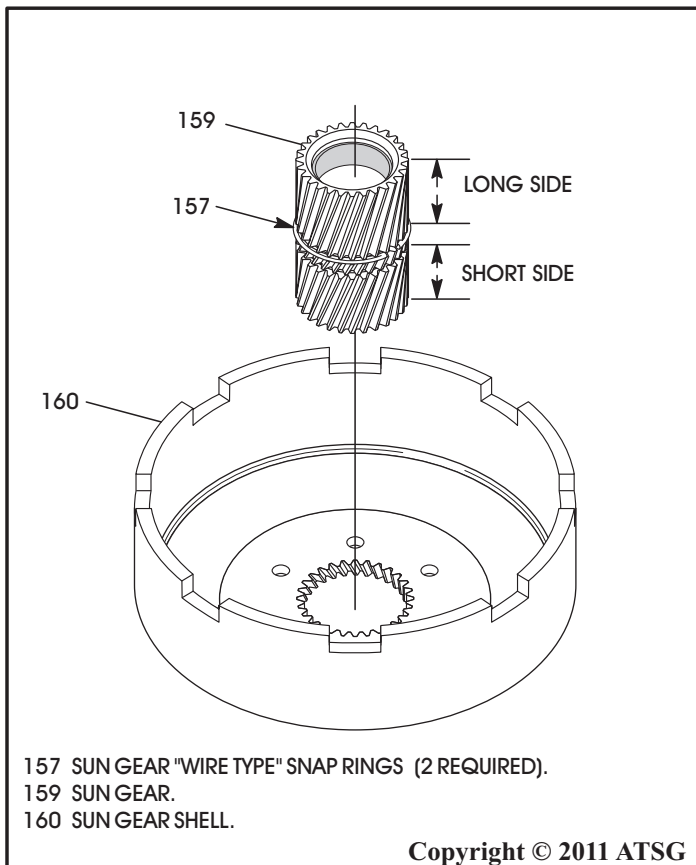

Figure 138
11. Ensure that 1 of the wire type snap rings is still in place next to the "long" side of the sun gear, as shown in Figure 138.
12. Install sun gear and snap ring assembly with the "short" side of sun gear facing down, as shown in Figure 138.